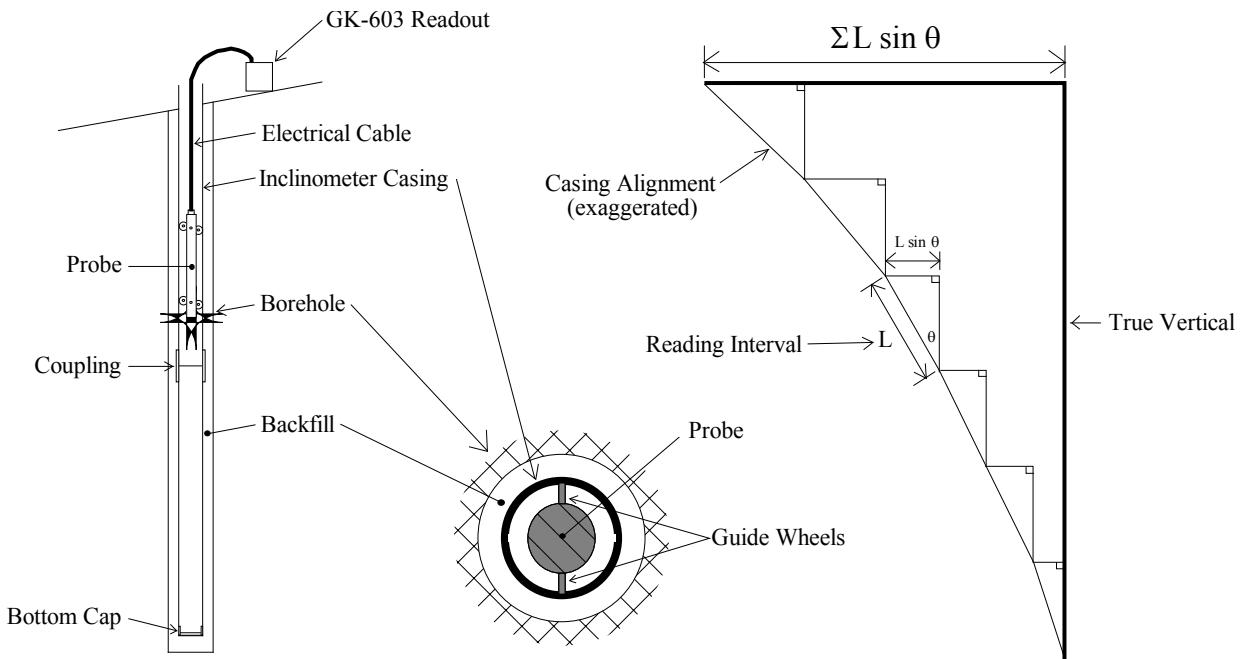

Figure 94 - Inclinometer Survey Description
Subsequent surveys of the inclinometer casing, when compared with the original survey, will reveal any changes of inclination of the casing and locations at which these changes are taking place. Analysis of the change of inclination is best performed by computing the horizontal offset of the upper wheels relative to the lower wheels which has produced the tilting (θ) over the reading interval (L) of the survey (usually the wheel base of the probe, two-feet for English systems, half meter for Metric). At each position of the inclinometer, the two readings taken on each axis (A+, A- and B+, B-) are subtracted from each other leaving a measure of $\sin\theta$. This value is then multiplied by the reading interval (L) and the appropriate factor to output horizontal deflection in engineering units (inches for English, centimeters, or millimeters for Metric) (see Figure 94).